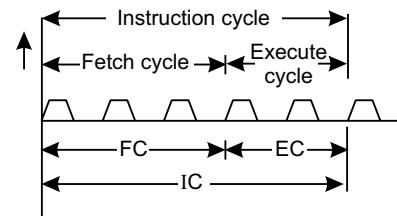

Fig. 2.19: Instruction cycle showing FC, EC and IC
An IC consists of Fetch Cycle (FC) and an Execute Cycle (EC). Thus $IC = FC + EC$. It is shown in Fig. 2.19. Depending on the type of instruction, IC time varies.
61. Explain a typical fetch cycle (FC).